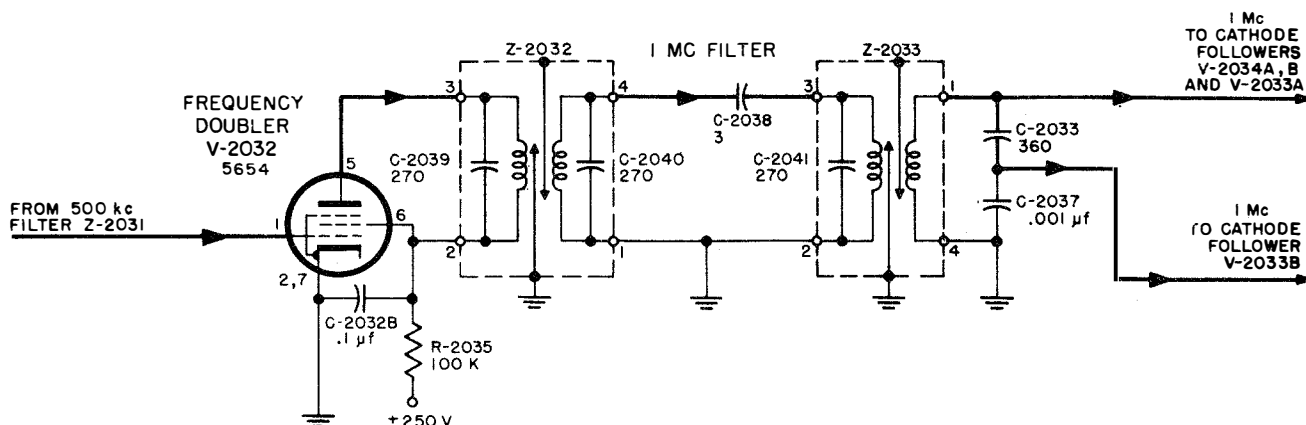

Figure 2-6. RFO Unit 2, Frequency Doubler V-2032, Simplified Schematic
(2) FREQUENCY DOUBLER V-2032.—This stage (figure 2-6), also operated class C, receives the 500-kc output of Z-2031 and delivers 500 kc and harmonics to a 1-mc filter comprising Z-2032 and Z-2033, capacity coupled by C-2038. Frequencies other than the second harmonic, 1 mc, are attenuated by Z-2032 and Z-2033. The output of Z-2033 is impressed across capacitance voltage divider C-2033 and C-2037.